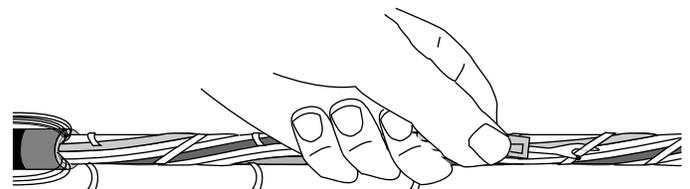

Figure 15
5.15 Use a seam ripper every 5 cm (2 in.) to cut the binding tape(s) that secures the buffer tubes to the dielectric central member. **USE EXTREME CAUTION** to prevent buffer tube damage (Figure 15).